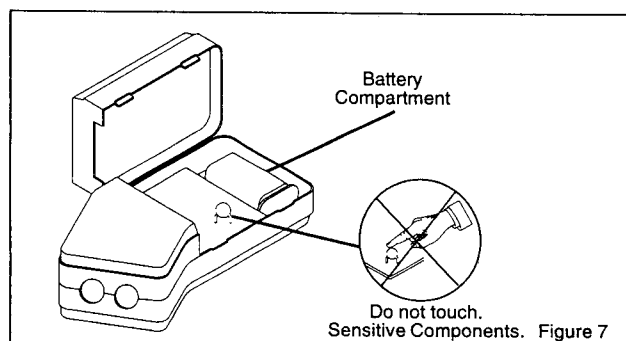

Figure 7
2. The battery compartment is located in the bottom half of the case as indicated in Figure 7. Connect a new 9V alkaline battery to the pigtail connector.